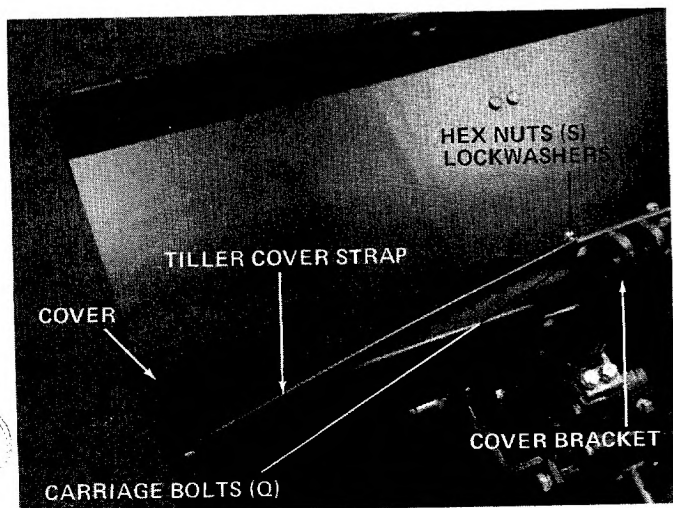

FIGURE 9
9. Using the four remaining carriage bolts (Q), lockwashers (R) and hex nuts (S), assemble tiller cover straps to cover bracket and cover. See figure 9.